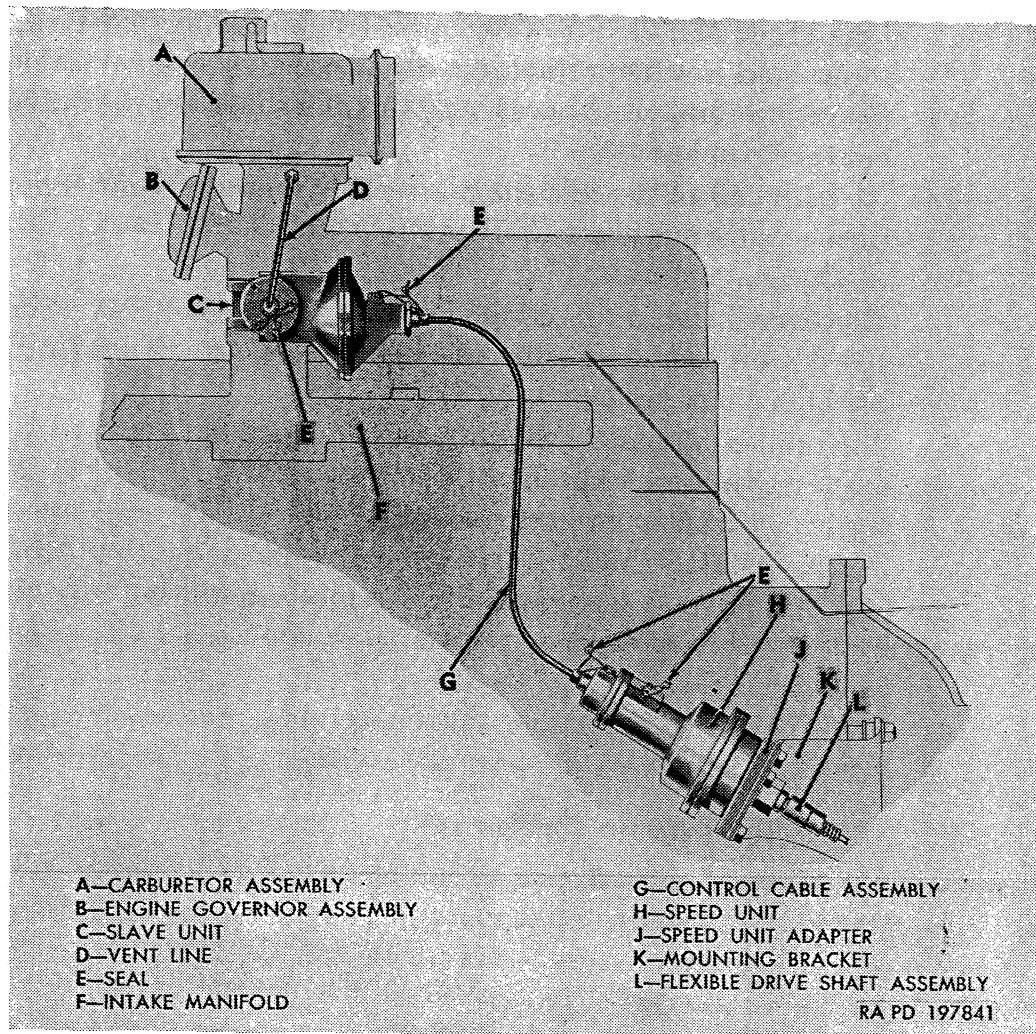

Figure 126. Arrangement of power-take-off governor units and lines.
(fig. 126)
*c. Seals.* Governor units are adjusted and sealed, and seals must be removed only when necessary to disconnect lines when replacing carburetor or distributor. Governor seal locations are shown in figure 126.